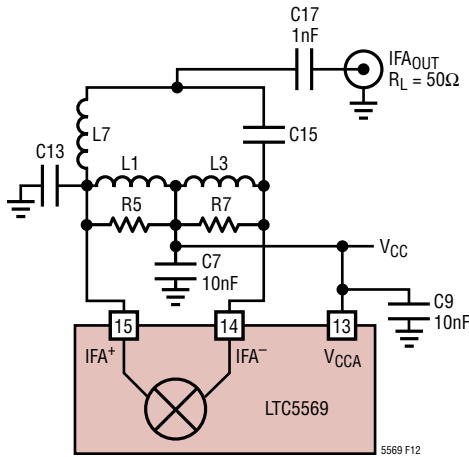

Figure 12. Discrete IF Balun Matching
For narrowband IF applications, it is possible to replace the IF transformer with the discrete IF balun shown in Figure 12 (only the A-channel is shown for clarity). The values of L3, L7, C13 and C15 are calculated to realize a 180° phase shift at the desired IF frequency, and provide a 50Ω single-ended output, using the equations listed below. Inductor L1 is calculated to cancel the internal IF capacitance (CIF from Table 4). L1 and L3 also supply DC bias to the IF output pins. R5 and R7 are used to reduce the differential output resistance (RS), which increases